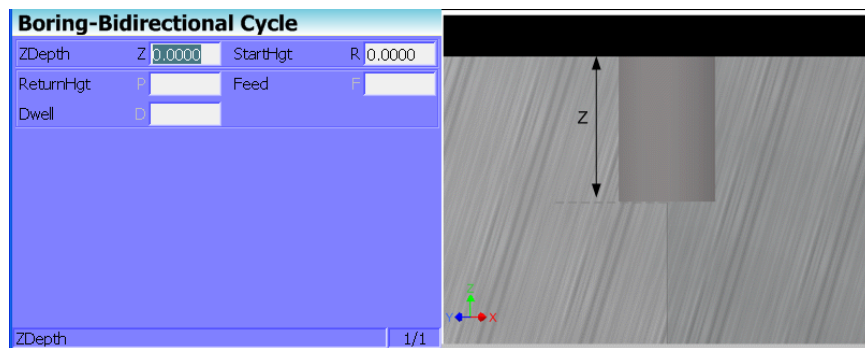

Figure 4-4, Boring Cycle Graphic Menu
2. Highlight **Boring** and press **ENTER** to display the Boring Cycle Graphic Menu. Refer to **Figure 4-4**.